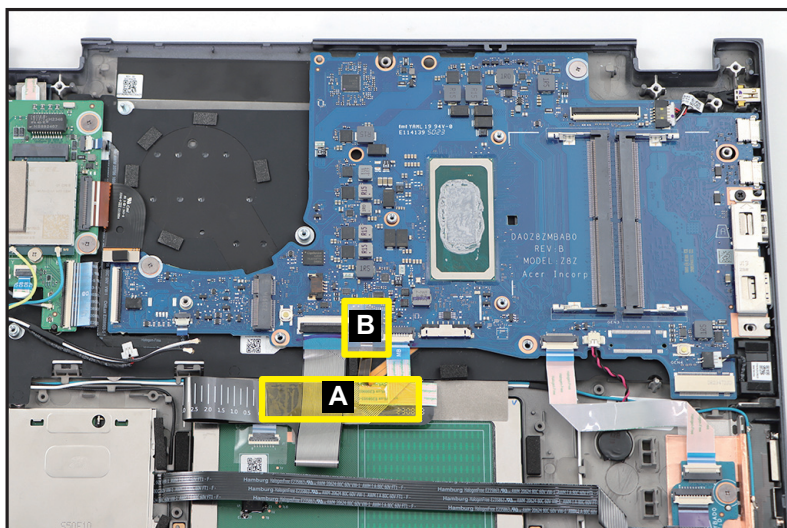

Figure 1-44. Mainboard Removal
1. Detach the kapton tape (A) and the mylar (B) securing the cables in place (Figure 1-44).